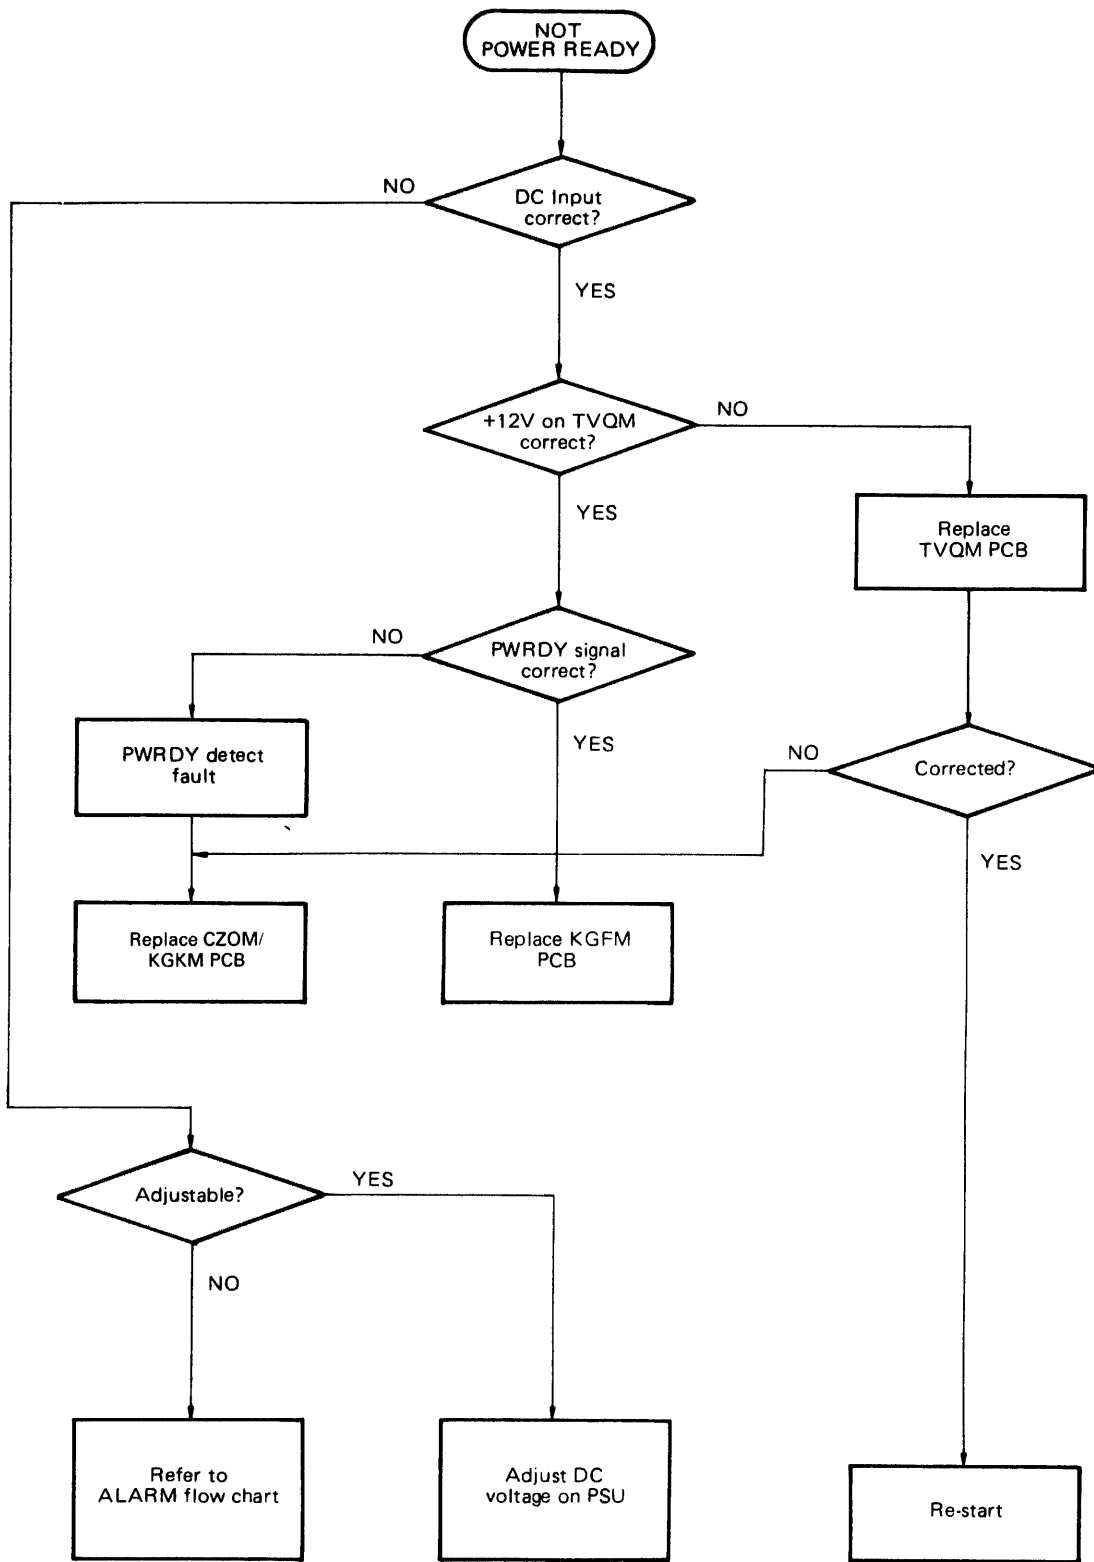

Figure 5-5-3 Not Power Ready Flow Chart
- Figure 5-5-3 Not Power Ready (page 5-10)